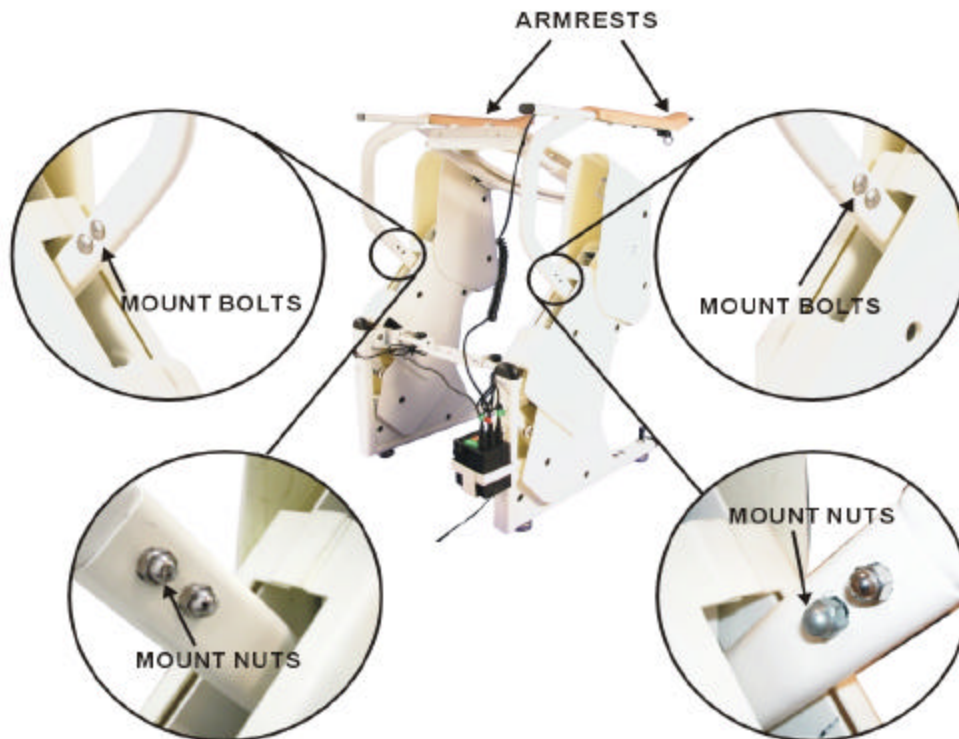

Figure A-7. Armrest Installation
- Step 10.** With the heads to the outside, place the two bolts through the mount bolt holes of the right armrest as shown in Figure A-7. Install the nuts on the bolts, and tighten the nuts on the bolts securely.